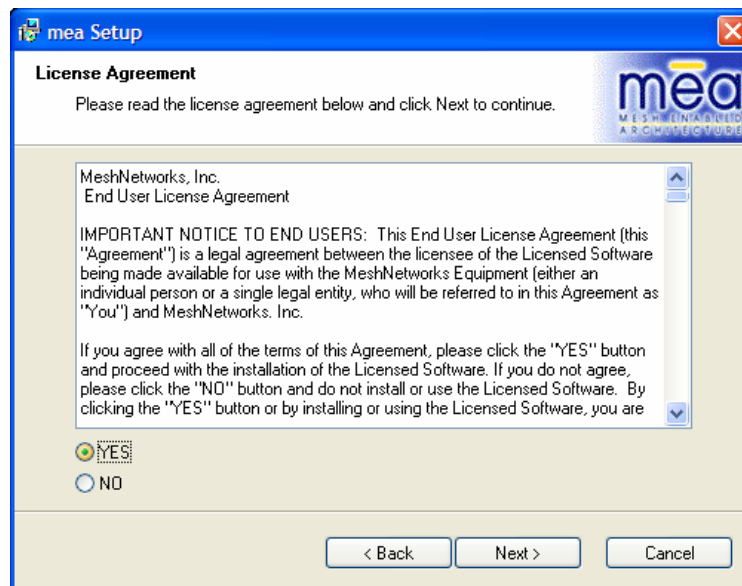

Figure 4. MEA Setup - License Agreement Dialog
7. The *License Agreement* dialog box will be displayed as shown in Figure 4. Please review the *End User License Agreement*. Use the scroll bar located at the right side of the dialog box to display the complete text message.
8. To continue with the installation process, select the **YES** radio button as shown in Figure 4 and then click on the **Next** button to continue the installation.